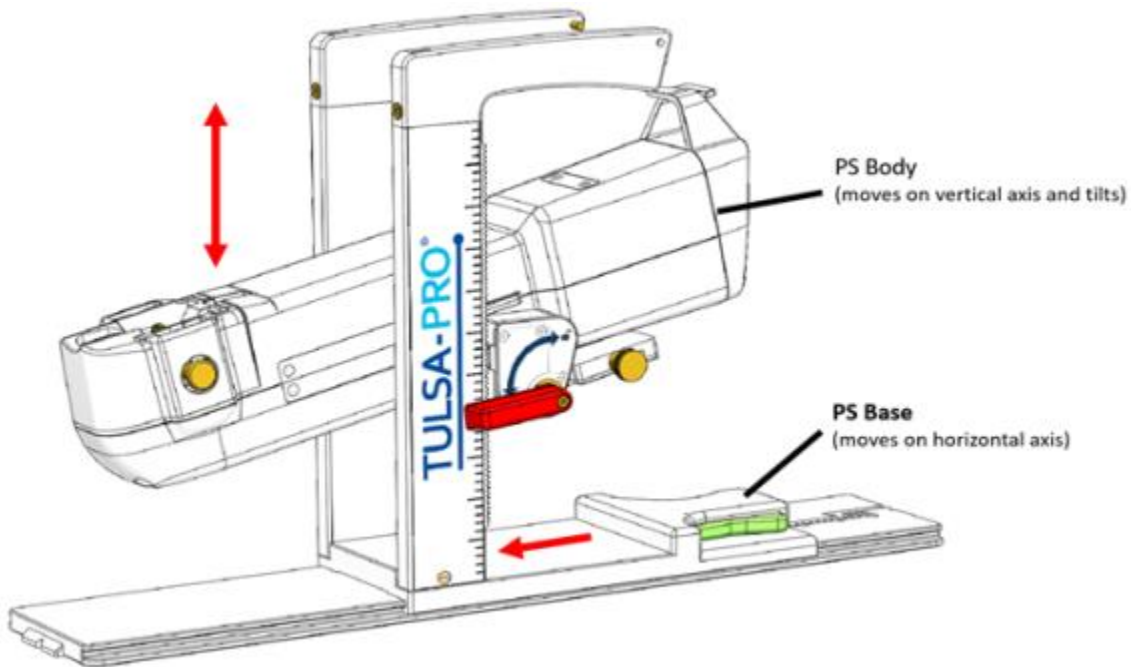

Figure 22: Adjusting the Positioning System
3. **MRI Technologist:** Manually move the PS into position so that the UA gripper aligns with the natural angle of the UA in the patient. Manually adjust the base of the PS forward and backward and up and down, and tilt the linear axis of the PS up and down (*Figure 22*).
NOTE: The PS adjustment knobs and levers are not colored as in *Figure 22*, but are colored here to help with these instructions.